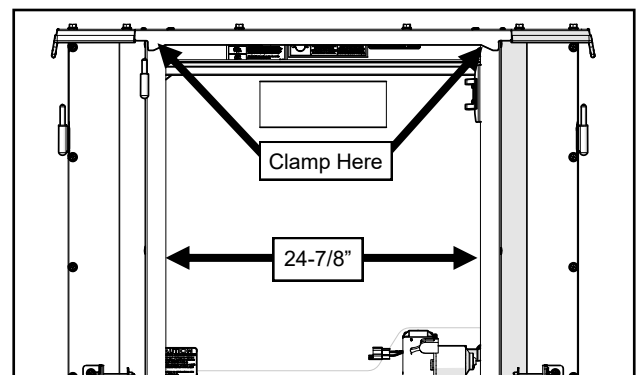

Fig. 4.4 (Squaring of Rear Legs and Roof)
- 4.4 Measure the width of the rear legs (outside to outside). Adjust the width if needed to 24-7/8". Measure opening corner to corner for squareness and clamp the rear flange of the roof to each of the rear legs. See Figure 4.4.